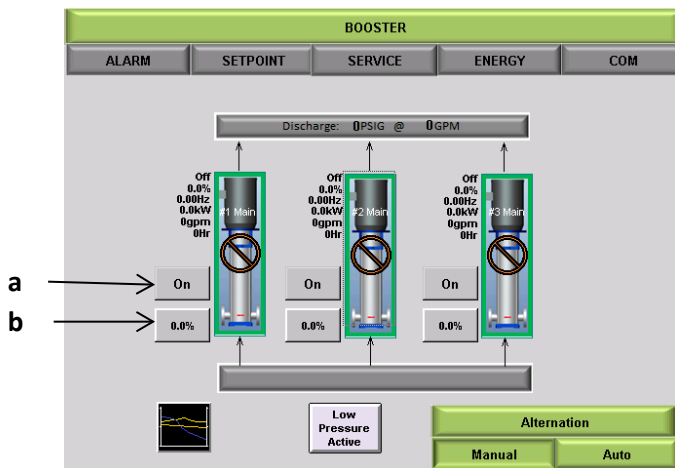

Figure 16: Basic Booster Manual Screen
- Manual Mode** is activated/deactivated by tapping [MANUAL] from the home screen. When activated, a dedicated screen will appear as shown in **Figure 16** to allow manual operation of individual pumps.